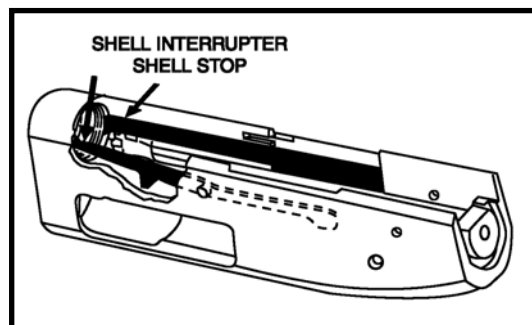

Figure 12
*Mossberg:* Replace both the shell interrupter and the shell stop. (Fig. 12)